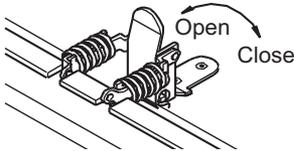

Figure 26 - Spring Latches
3. Undo latches located on top and bottom of firebox (see Figure 26). Carefully swing door to the left. Glass door is securely mounted to firebox with 5 screws.